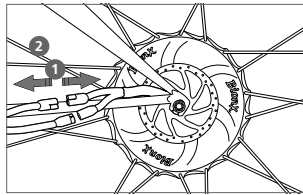

Fig. 2
- Unplug the two cable connections that lead to the motor (Fig. 2)